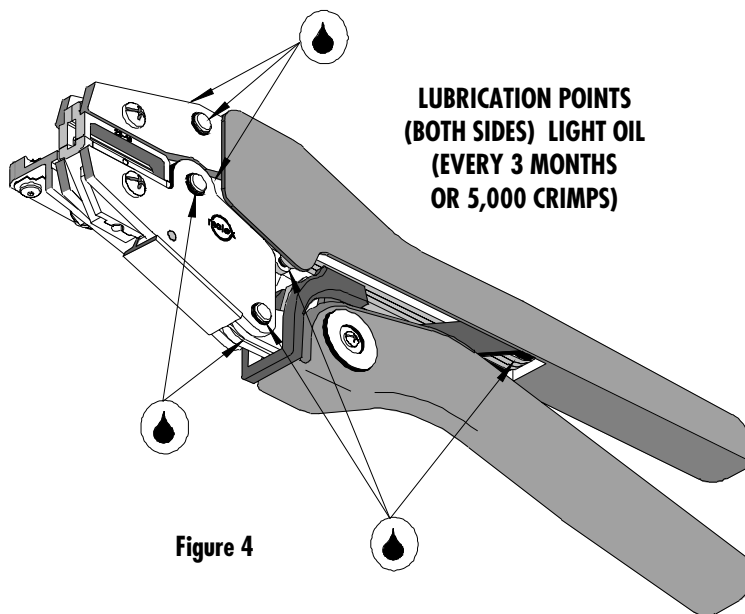

Figure 4
3. Make certain all pin, pivot points and bearing surfaces are protected with a thin coat of high quality machine oil. Do not oil excessively. This tool was engineered for durability, but like any fine piece of equipment it needs cleaning and lubrication for a maximum service life of trouble-free crimping. Light oil, such as 30 weight automotive oil, can be used at the oil points shown in Figure 4, every 5,000 crimps or 3 months will significantly enhance the tool life and ensure a stable calibration.